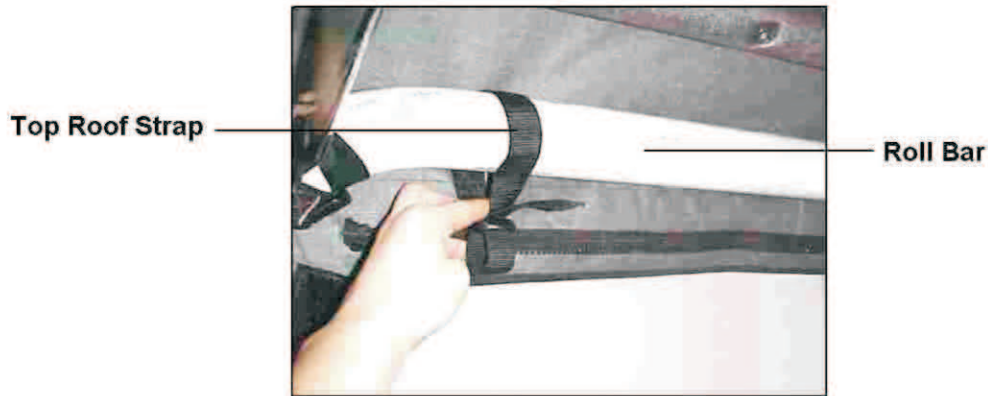

Figure 16
NOTE: ONLY 1987-91 Jeeps will come equipped with (2) top straps and will secure the roof of the Cab Top to the roll bar as shown in Figure 16.